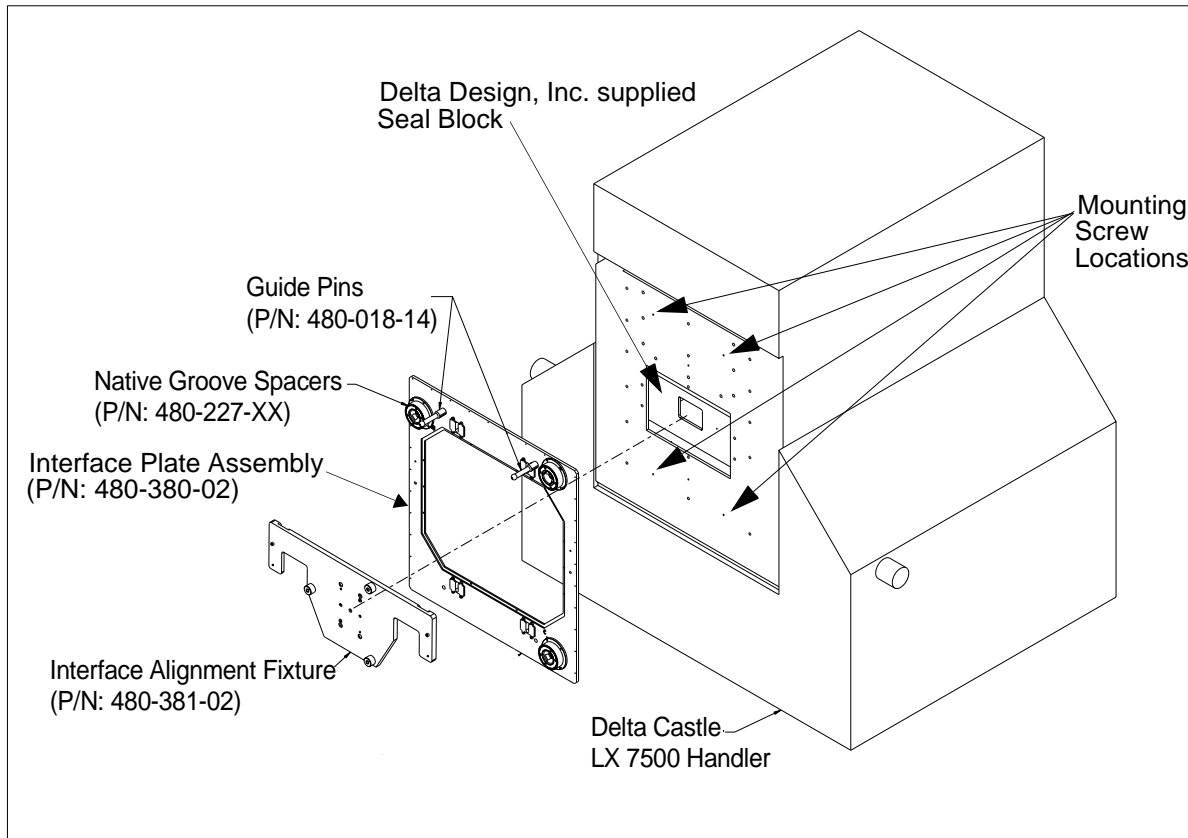

Figure 7 Interface Plate Assembly and Alignment Fixture Position
- 18) Place four 1/4-20 mounting screws (pn 470-046-16) in the holes in the Delta Castle plate. Leave enough thread exposed to allow the interface plate assembly to be loosely fastened at the four key-holes. See Figure 7.
The side of the plate with lettered markings (A, B and C) for the native groove spacers must face away from the handler. Marking C must be placed closest to the floor and markings A and B must be placed furthest from the floor. See Figure 7.
- 22) Position the alignment fixture (pn 480-381-02) next to the handler so that it captures a hole and slot in the interface plate assembly and the two pins on the seal block. See Figure 7.